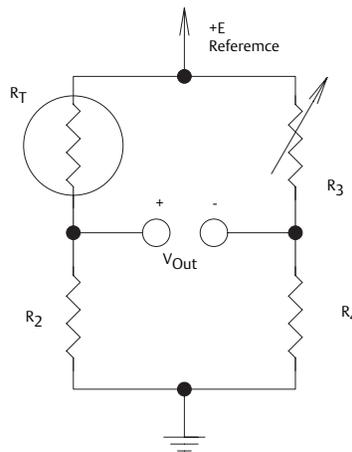

Figure 1
3. Hardware Linearization using a basic bridge circuit (see figure 1).